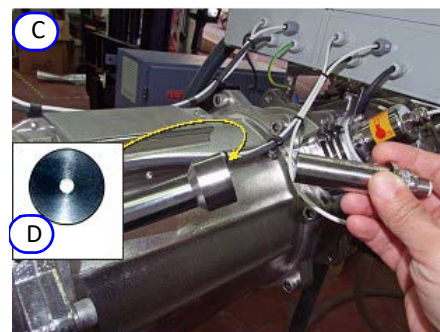
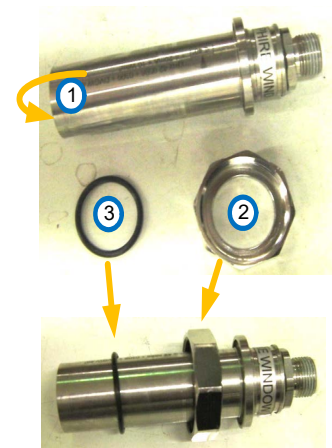

Figure 10-29: Removing a Sensor C 2 (Generic View)
Figure 10-32: Sensor, nut and washer
- Step 3.** Carefully pull the sensor out of the housing (Figure 10-29). If a pinhole (D) is present it slides out. The large nut comes off together with the sensor.
- Step 4.** Check the sensor's lens (1 in Figure 10-32) for condensation. If present, using a dry lens cloth, dry the lens thoroughly.
- Step 13.** Unpack the new sensor (Figure 10-32) and the sensor pinhole (**D** in Figure 10-29, if supplied).